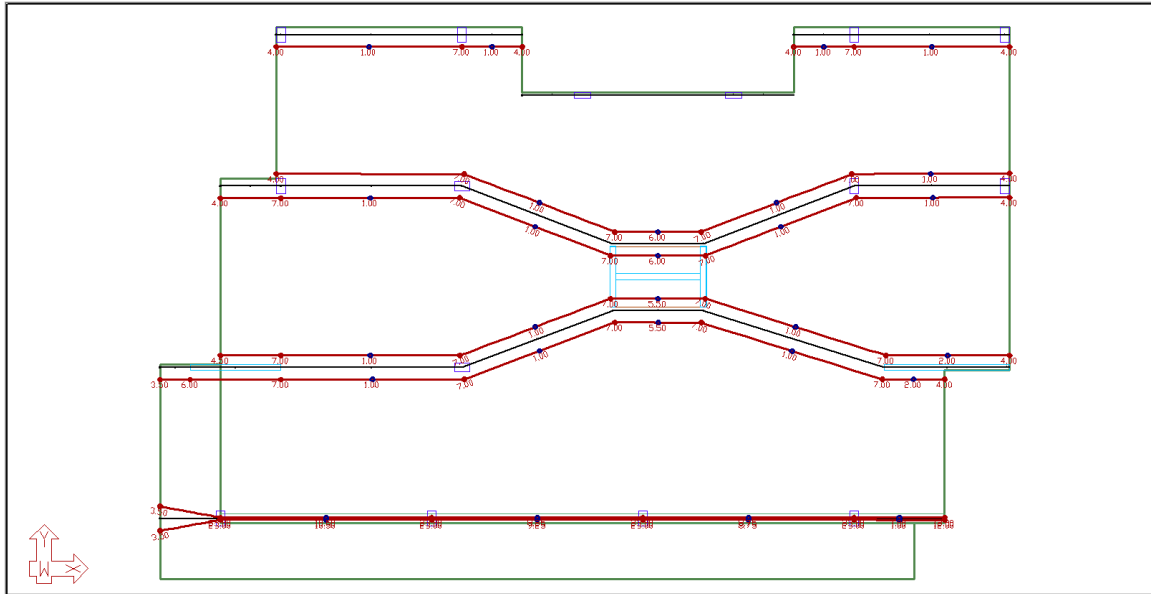

FIGURE 9-51
- At this point your screen should look like **FIGURE 9-51**.